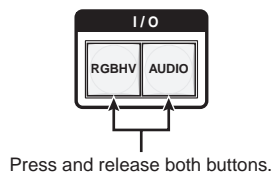

Figure 3-36 — Exit I/O Group mode
7. Press and release the RGBHV (CrossPoint 450 Plus switchers) or Video (MAV Plus switchers) button and the Audio button until the buttons light (figure 3-36). The switcher exits *I/O Group* mode.